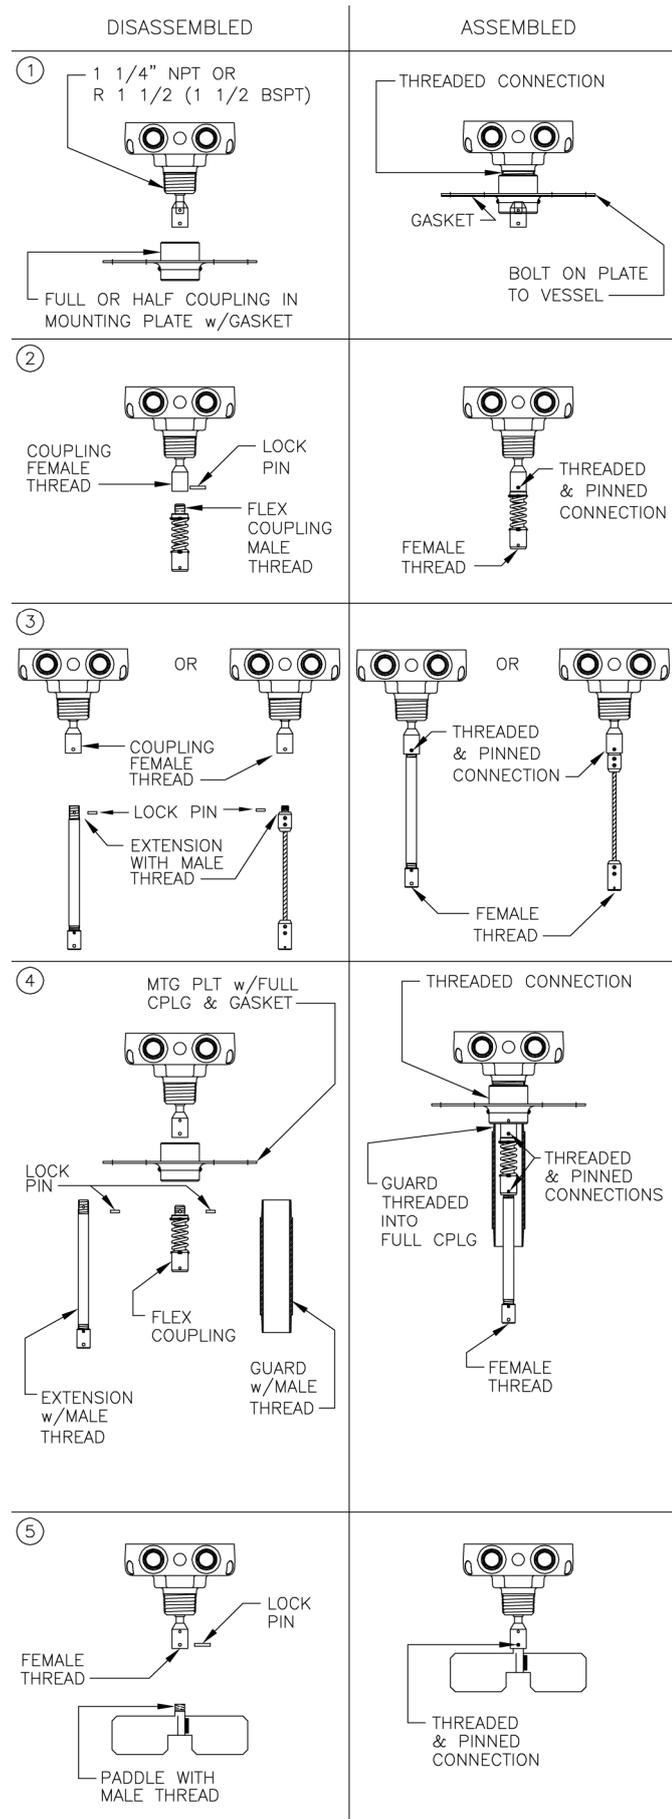

Figure 3
(1) Mounting Plate Attachment (if applicable – see Table 2 on page 11)
After using the **mounting plate** as a mounting hole template (see Section 3.1), attach the mounting plate to the PLS series unit prior to attaching to vessel. This is particularly advantageous if the paddle to be used is not the insertion type. Grease the paddle unit's threaded hub with anti-seize compound and thread the mounting plate into place until there is a snug fit. (See also ① of Figure 3 for guidance).
(2) Flexible Coupling Attachment (if applicable – see Table 2 on page 11)
Remove the **lock pin** from the PLS unit. Screw the **flex coupling** into the coupling provided on the PLS unit. Align the "through hole" within the connection and secure with lock pin. (See also ② of Figure 3 for guidance).
(3) Extension Attachment (if applicable)
Remove the **lock pin** from the PLS unit (or flex coupling). Screw the **extension** into the coupling provided on the PLS unit (or flex coupling). Align the "through hole" within the connection and secure with lock pin. (See also ③ of Figure 3 for guidance)
(4) Guard Attachment (if applicable)
In applications using a mounting plate with a **full coupling**, slide the **1¼" pipe** over the shaft extension and secure to the mounting plate coupling. The shaft extension should protrude, from the guard, a distance of approximately 102 mm (4 inches). (See also ④ of Figure 3 for guidance).
(5) Paddle Attachment (if applicable)
The **paddle** should be attached at this time only if it is an insertion type or if the mounting plate is being utilised. Remove the lock pin from applicable connection point (i.e. PLS unit, flex coupling or extension). Screw the paddle into the applicable coupling. Align the "through hole" within the connection and secure with the lock pin. (See also ⑤ of Figure 3 for guidance).